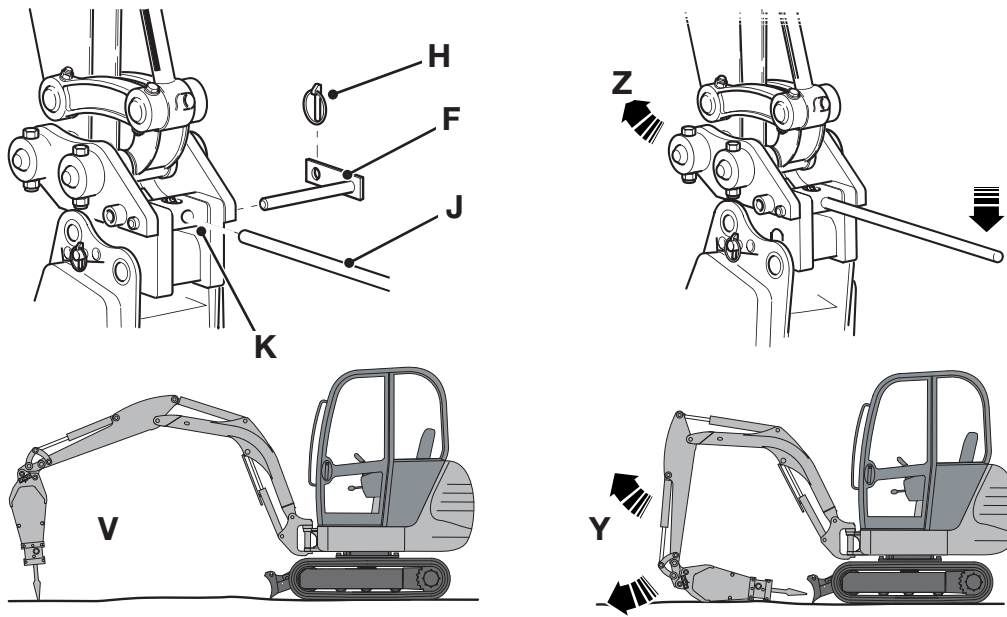

Fig 12.
- 2 Position the rockbreaker just clear of the ground and at an angle such that the rockbreaker does not detach from the front pivot pin when the Quickhitch is unlatched. Typically shown at V. ⇒ Fig 12. \(A-14\)